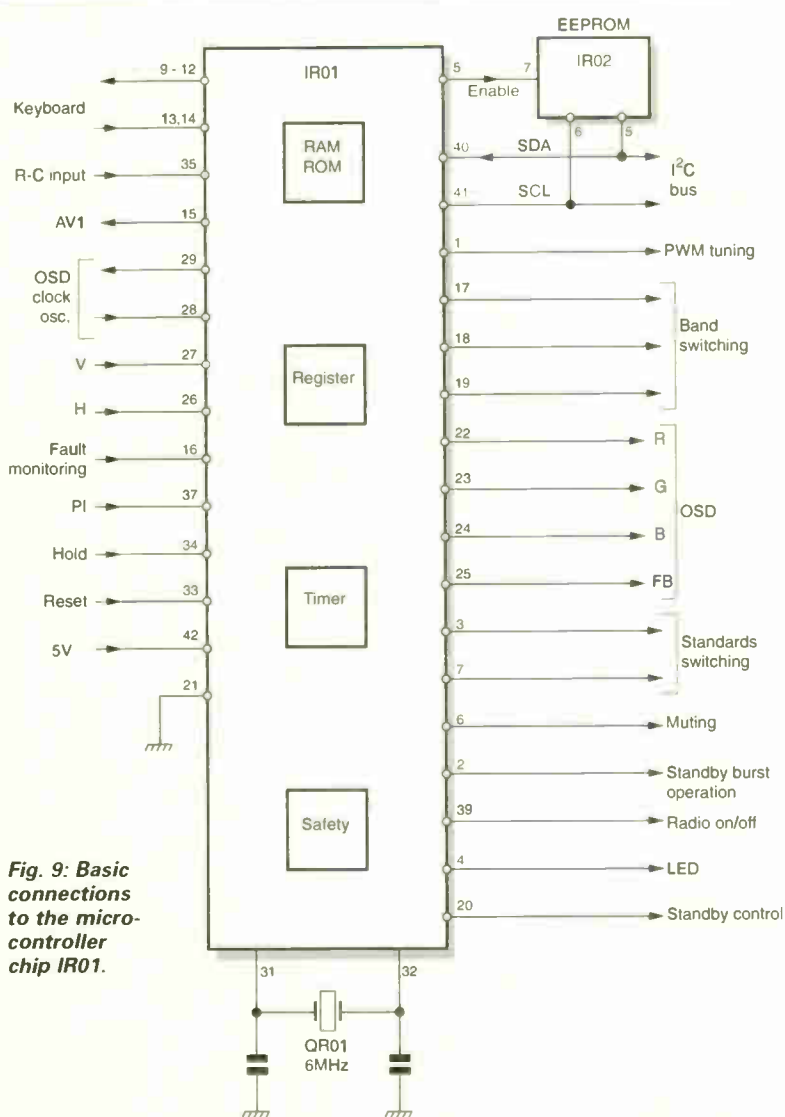

Fig. 9: Basic connections to the microcontroller chip IR01.
Fig. 9 shows basic connections to the microcontroller chip, Fig. 10 the power supply, standby control and reset arrangements. IR01 is powered by a 5V supply at pin 42. In normal operation this is derived from the 12-5V supply generated in the line output stage (see Fig. 4, January) via DL01 and a 5V series regulator circuit (TR01 and DR02). In standby the 5V regulator is fed from the chopper power supply generated audio supply (UA) via TL03, which is switched off by the VTU supply at its base once the line timebase is working.